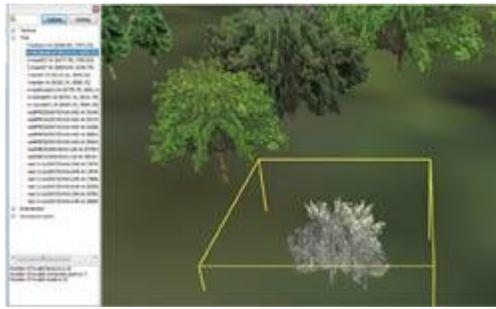

Figure 6: A model buried in the terrain found using the plug-in
3. Inspection of buried model: search for models that are buried under the terrain (Figure 6)